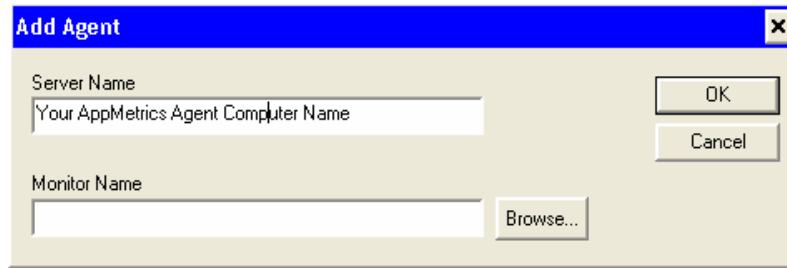

Figure 6
6. At the add agent dialog box **Server Name** field you should type in the computer name of the AppMetrics Agent machine in which you wish to create an Agent Monitor (see Figure 6).